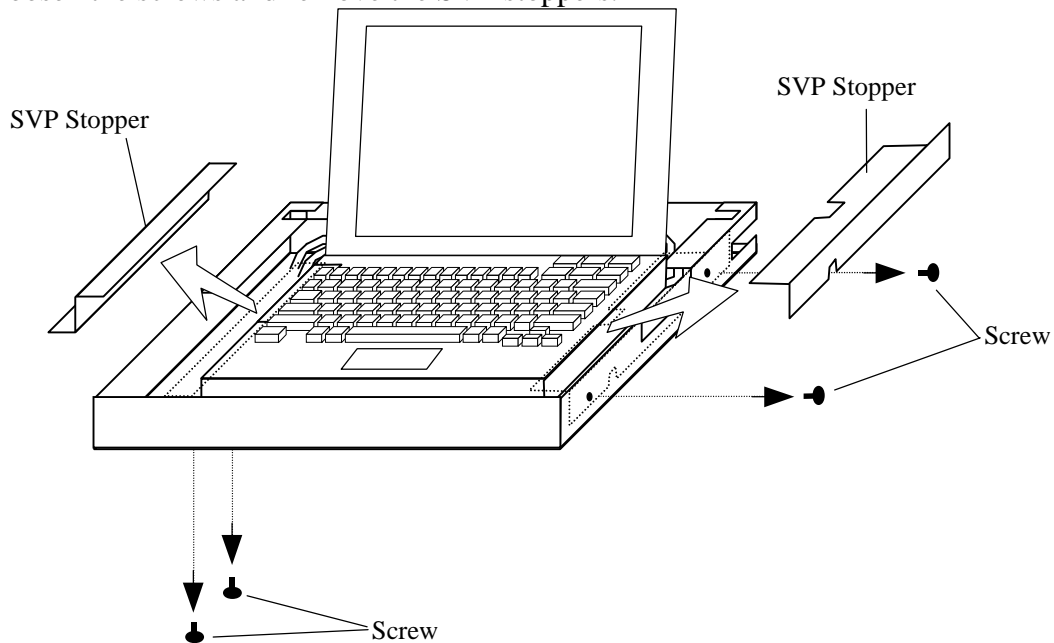

Fig. 3.15-13 Removing and installing the SVP Stoppers
- Install the SVP to the SVP ASSY and attach the SVP stoppers with screws. (See Fig. 3.15-13.)